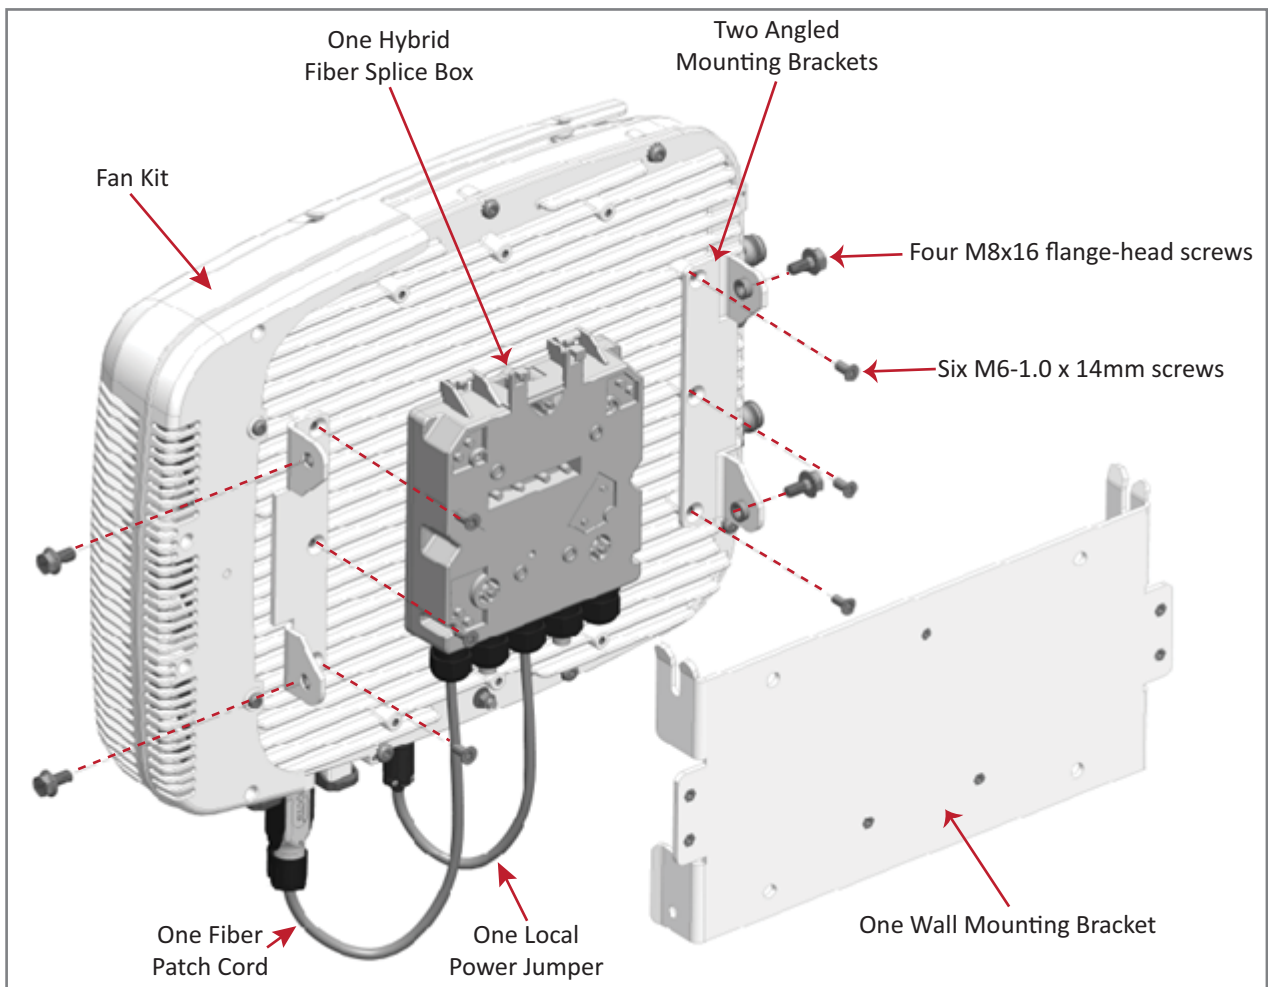

Figure 11. CAP L with Fan Kit, CAP L Mounting Bracket Kit, and CAP L Hybrid Fiber Splice Box Kit
- 5 Assemble and mount the CAP L Hybrid Fiber Splice Box Kit and the CAP L, as described below and as shown in Figure 11 on page 32, which shows a CAP L with Fan Kit (installation for a CAP L without a Fan Kit is the same).